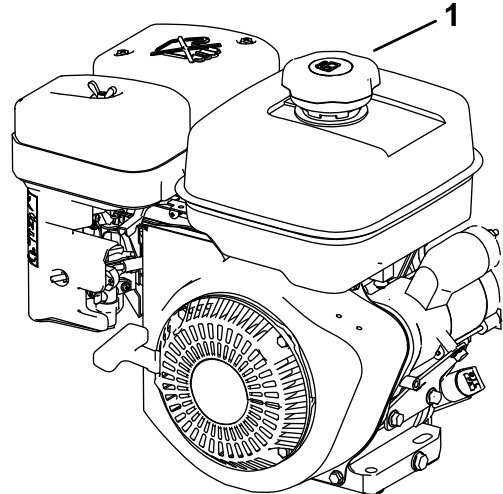

Figure 1
3. Clean around the fuel-tank cap and remove it (Figure 1).
4. Fill the tank with fuel (Figure 1) to within 6 to 13 mm (1/4 to 1/2 inch) from the top of the tank. **Do not fill into the filler neck of the tank.**